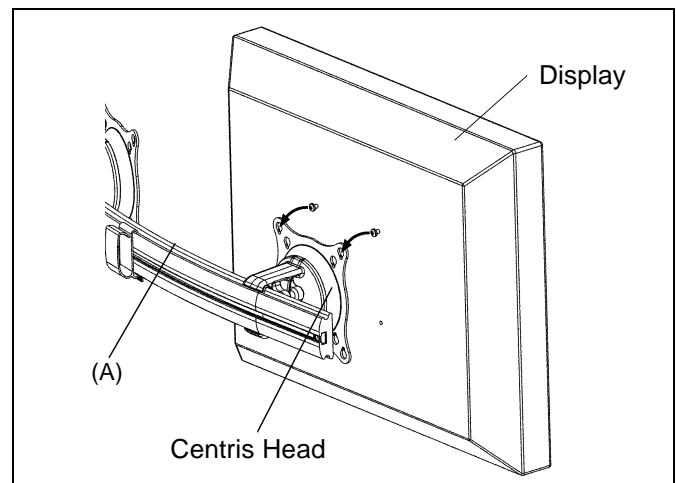
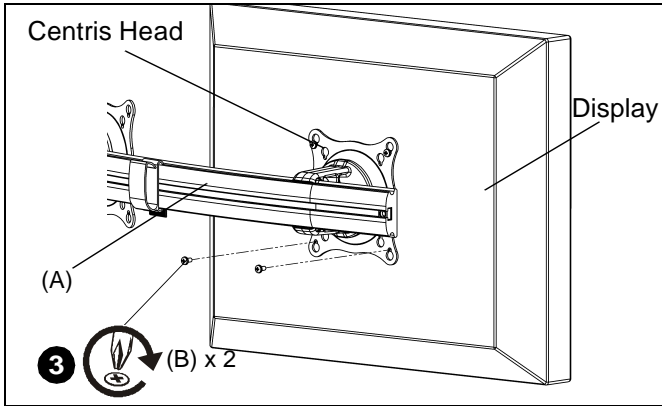

Figure 4
Figure 5
2. Hang display on Centris head. (See Figure 4)
3. Install bottom two M4 x 12mm Phillips pan head screws (B) through Centris head mounting holes and into lower mounting holes in display back.
4. Tighten ALL four M4 x 12mm Phillips pan head screws (B). (See Figure 5)